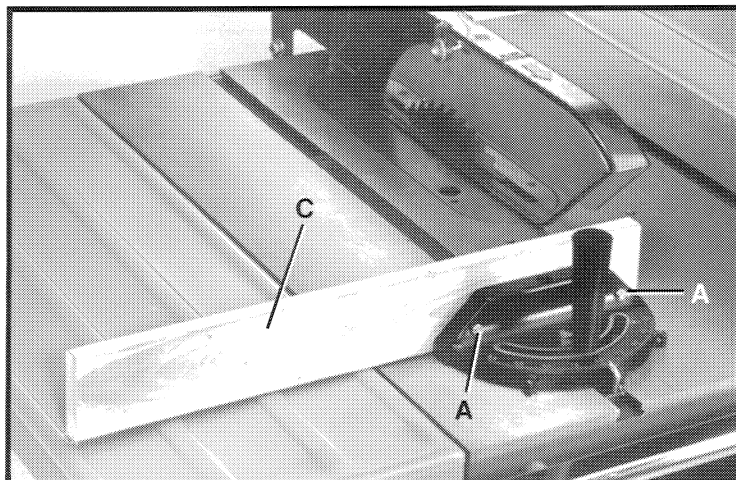

Fig. 84
For added safety and convenience the miter gage can be fitted with an auxiliary wood-facing (C), as shown in Fig. 84, that should be at least 1 inch higher than the maximum depth of cut, and should extend out 12 inches or more to one side or the other depending on which miter gage slot is being used. This auxiliary wood-facing (C) can be fastened to the front of the miter gage by using two wood screws (A) through the holes provided in the miter gage body and into the wood-facing.